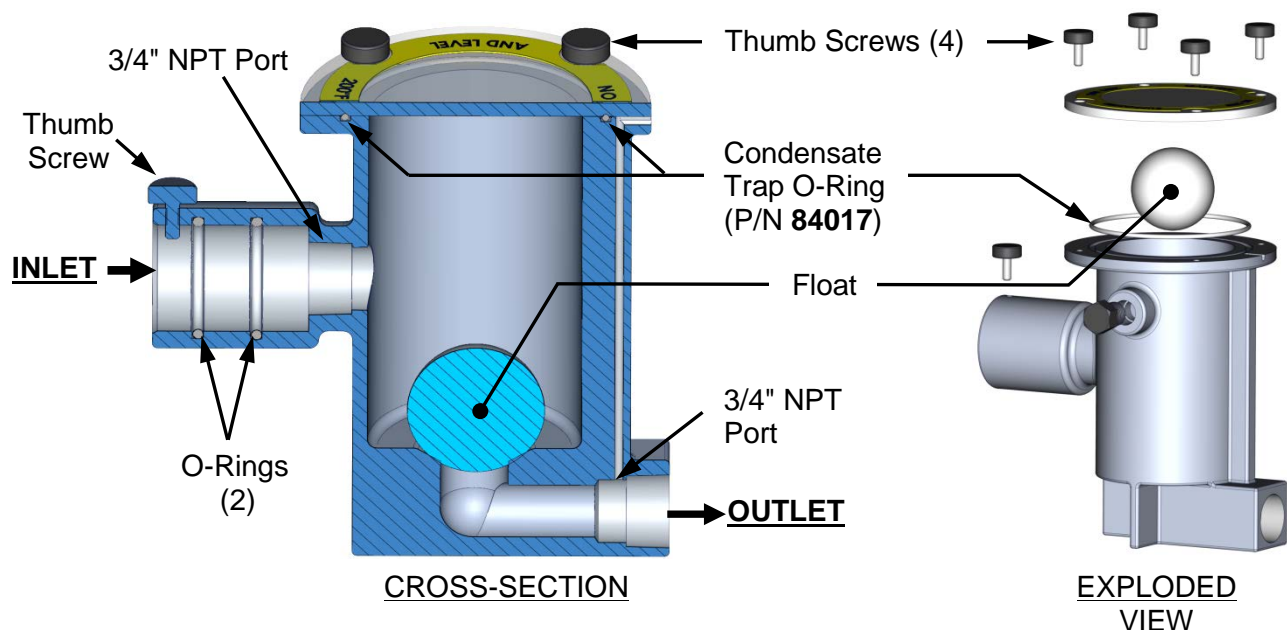

Figure 6-10. External Condensate Trap – Cross-Section & Exploded View
1. Disconnect the external condensate trap by loosening and then removing connections on the inlet and outlet sides of the condensate trap (see Figure 6-10).
2. Loosen the four (4) thumbscrews securing the trap's cover and then remove the cover and the O-ring from under the cover.